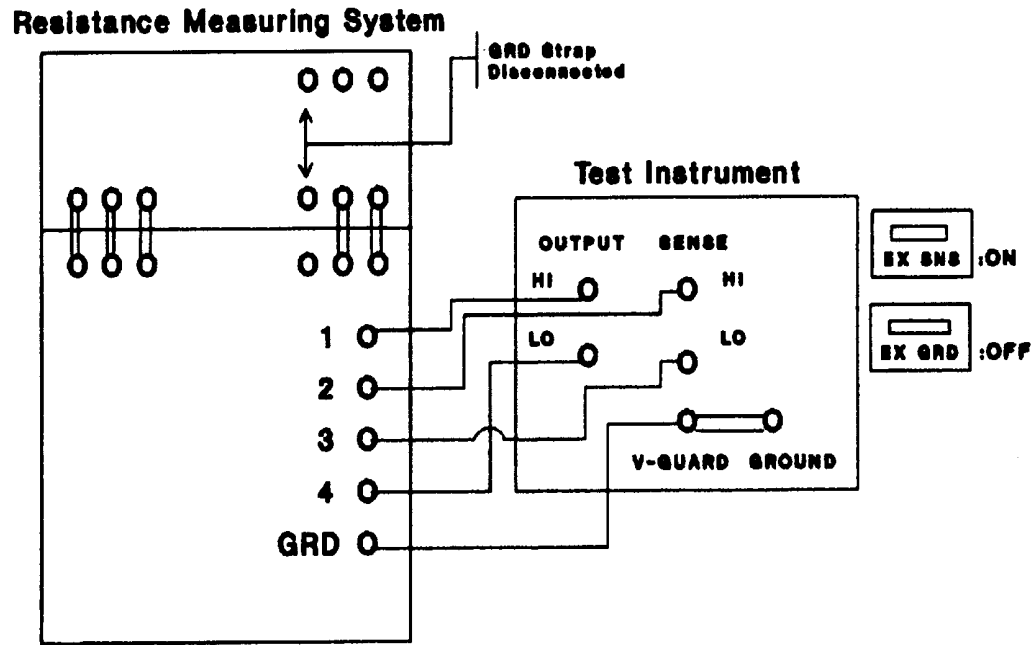

Figure 6. Resistance (1.9 through 19 MΩ).
f. Connect equipment as shown in figure 6.